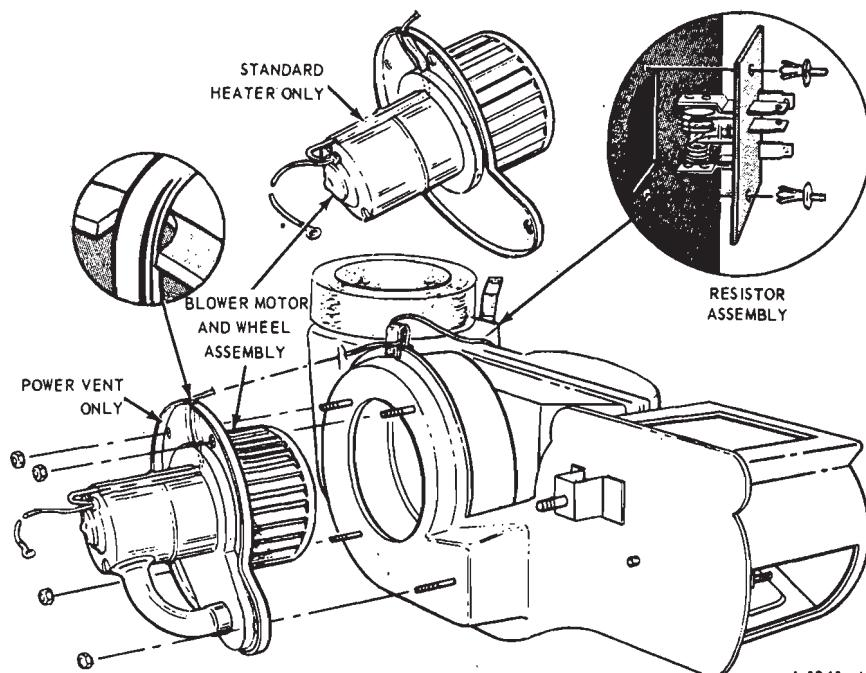

FIG. 35—Heater Blower and Motor Installation—Mustang and Cougar
1. Disconnect the wires from the resistor which is located under the instrument panel (Fig. 35).
3. Remove four blower and motor mounting plate nuts, and remove the blower and motor from the heater assembly (Fig. 35).